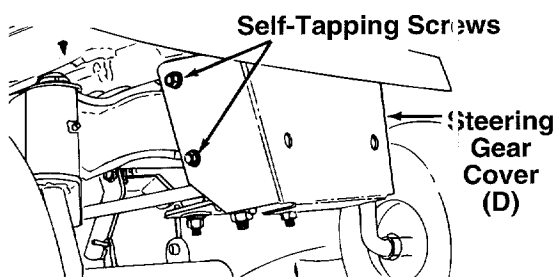

FIGURE 6.
11. Install the **steering gear cover (D)** as shown in figure 6, to cover the underside of the steering mechanism. Secure with two **self-tapping screws** on each side of the cover. Do not completely tighten any of these screws until all four of them are positioned correctly.